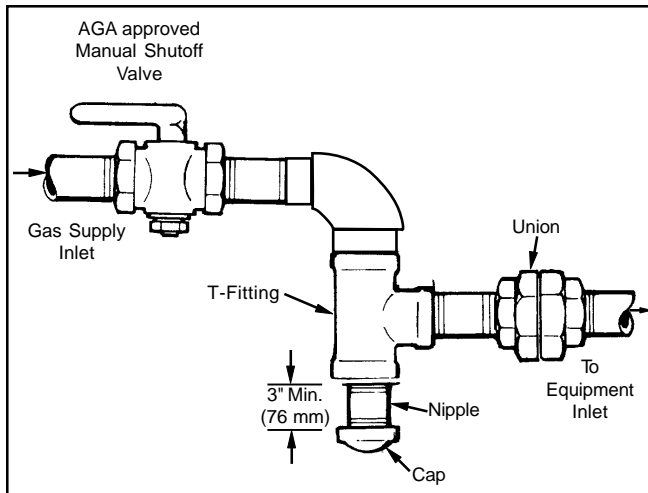

Figure 3. The proper design for a sediment trap / drip leg.
4. Install a sediment trap (drip leg) ahead of the gas controls (see Figure 3). Fit the trap with a threaded cap which can be removed for cleaning.